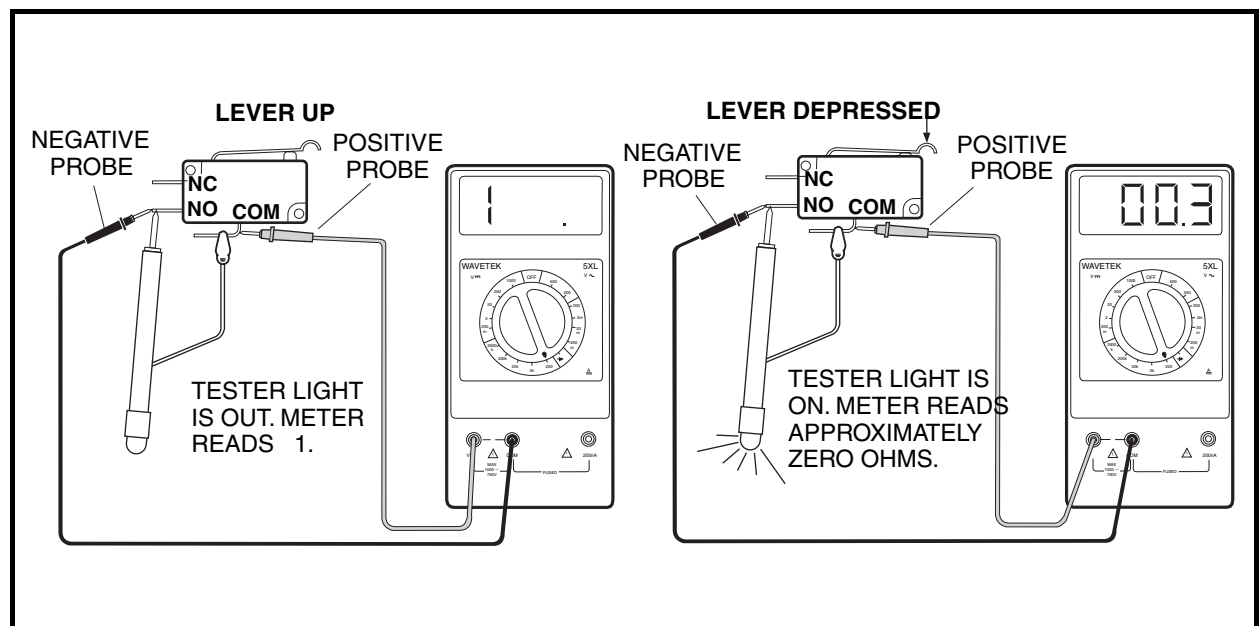

Figure 11-14 Test Lockout Cam Limit Switch
4. Set the multimeter to 200 ohms. Place the red (+) probe of the multimeter on the common (COM) terminal of the limit switch. Place the black (-) probe on the normally open (NO) terminal of the switch. Without the lever pressed, the reading should be no continuity. Press the lever, and the reading should be continuity. If either reading is incorrect, replace the limit switch (**Figure 11-14, Page 11-16**).